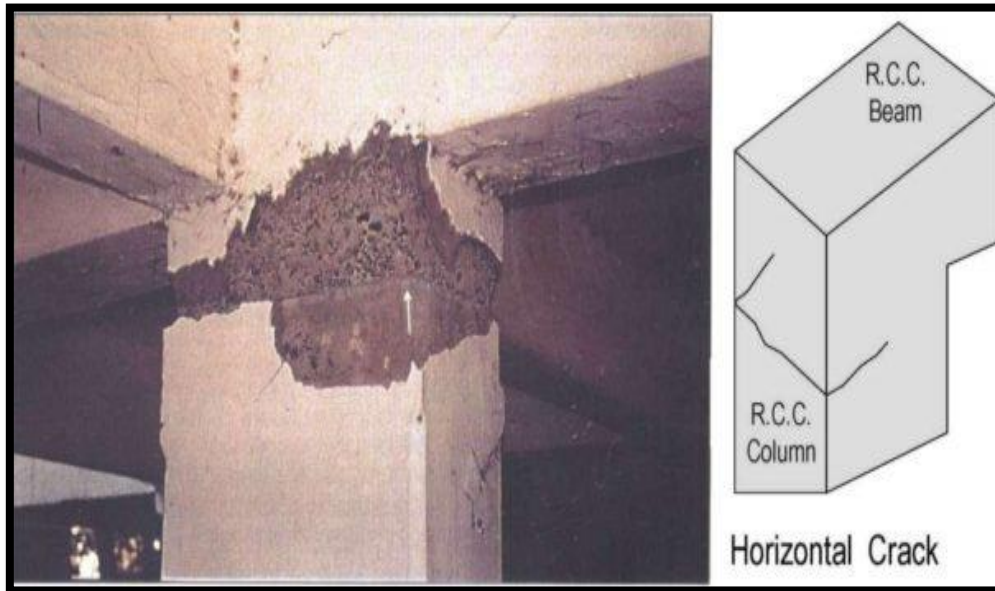

Figure 2: Horizontal Crack In The Concrete Column ^[3]^[4]
- b) **Horizontal Crack:** Horizontal cracks within the concrete column are typically seen on the beam-column joint and on the column face where tensile stress is high. Columns with insufficient moment restraint, low reinforcement area or incorrect arrangement of reinforcement may result in horizontal cracking because of the impact of shear force, direct load, and uniaxial bending. Figure 2 is the horizontal cracks within the concrete column.